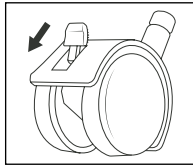

Fig. 6
- ◆ Press the levers on the two castors with locking levers **11** downwards once you have parked the appliance in order to prevent the appliance from rolling away (see fig. 6).